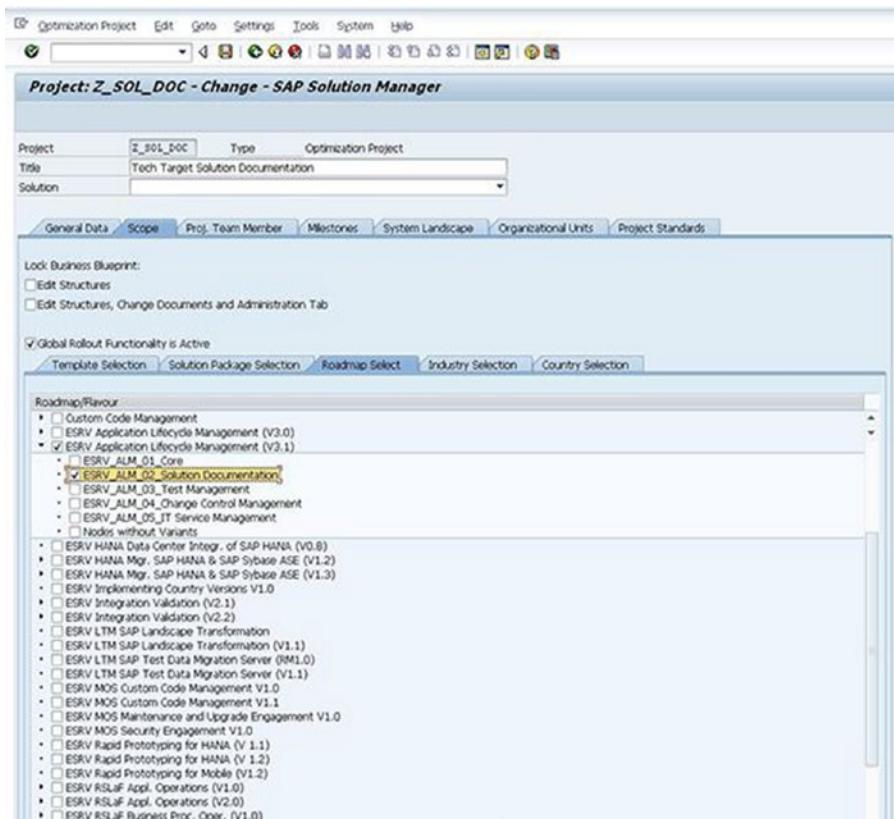

Figure 10-6. SolMan Roadmap Accelerator
- Select the SAP SolMan Roadmap Accelerator. After you save the project, attach the SolMan roadmap to help guide you through the best practices, including use of accelerators with the /ESRV_ALM_01_CORE t-code, as shown in Figure 10-6. Now navigate to the ESRV ALM roadmap and select the solution documentation.